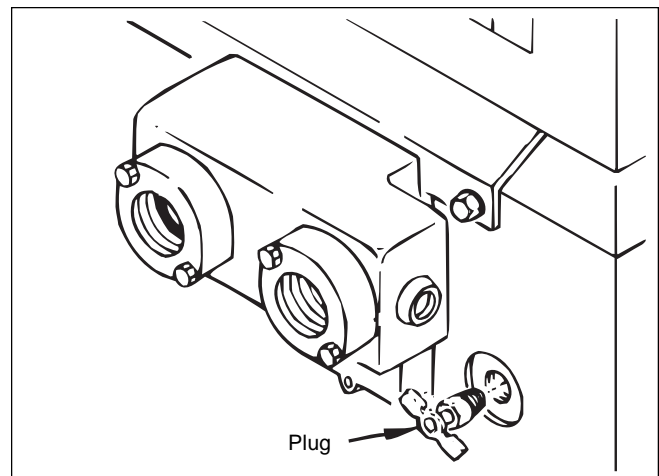

Figure 32. Scale inspection.
2. Remove the hex-head plug located on the right side of the heater under the in/out header (see Figure 32). Perform this inspection after 60 days of and after 120 days of operation. This will establish a regular inspection routine.